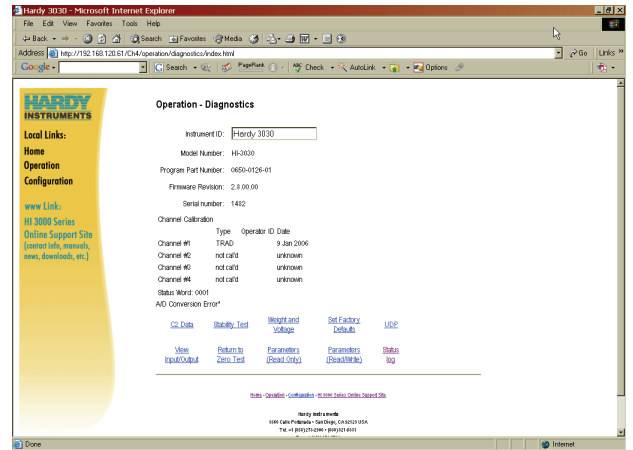

FIG. 3-31 OPERATION - DIAGNOSTICS PAGE
Step 2. Click on “Diagnostics”. The Diagnostics page appears. (See Fig. 3-31)